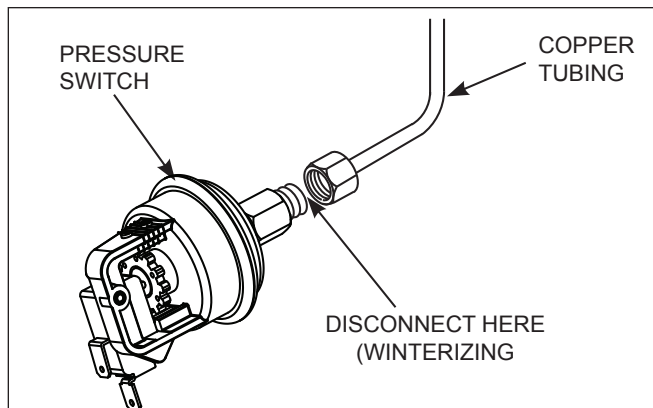

Figure 22. Pressure Switch Copper Tubing
8. Disconnect the pressure switch from the copper tubing. See Figure 22.
1. Attach the copper tubing to the pressure switch (see Figure 22).